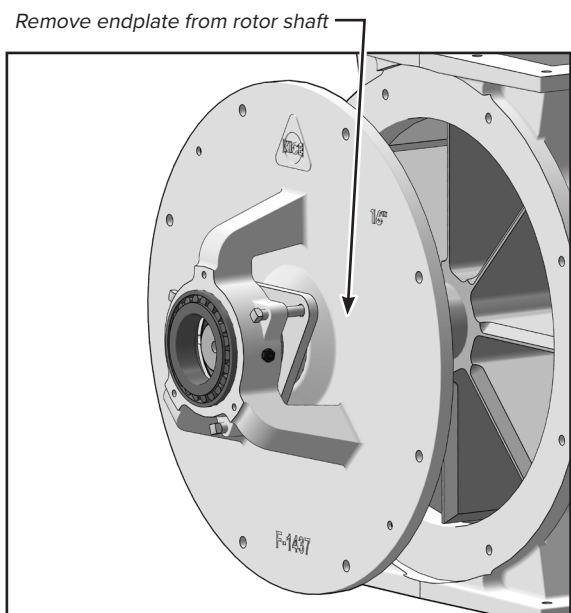

FIGURE 12
11. Remove endplate carefully from rotor shaft taking care not to drop the bearing or packing retainer as they are pulled away from the rotor shaft (figure 12).
15. Remove endplate carefully from rotor shaft taking care not to drop the bearing or packing retainer as they are pulled away from the rotor shaft (figure 12).